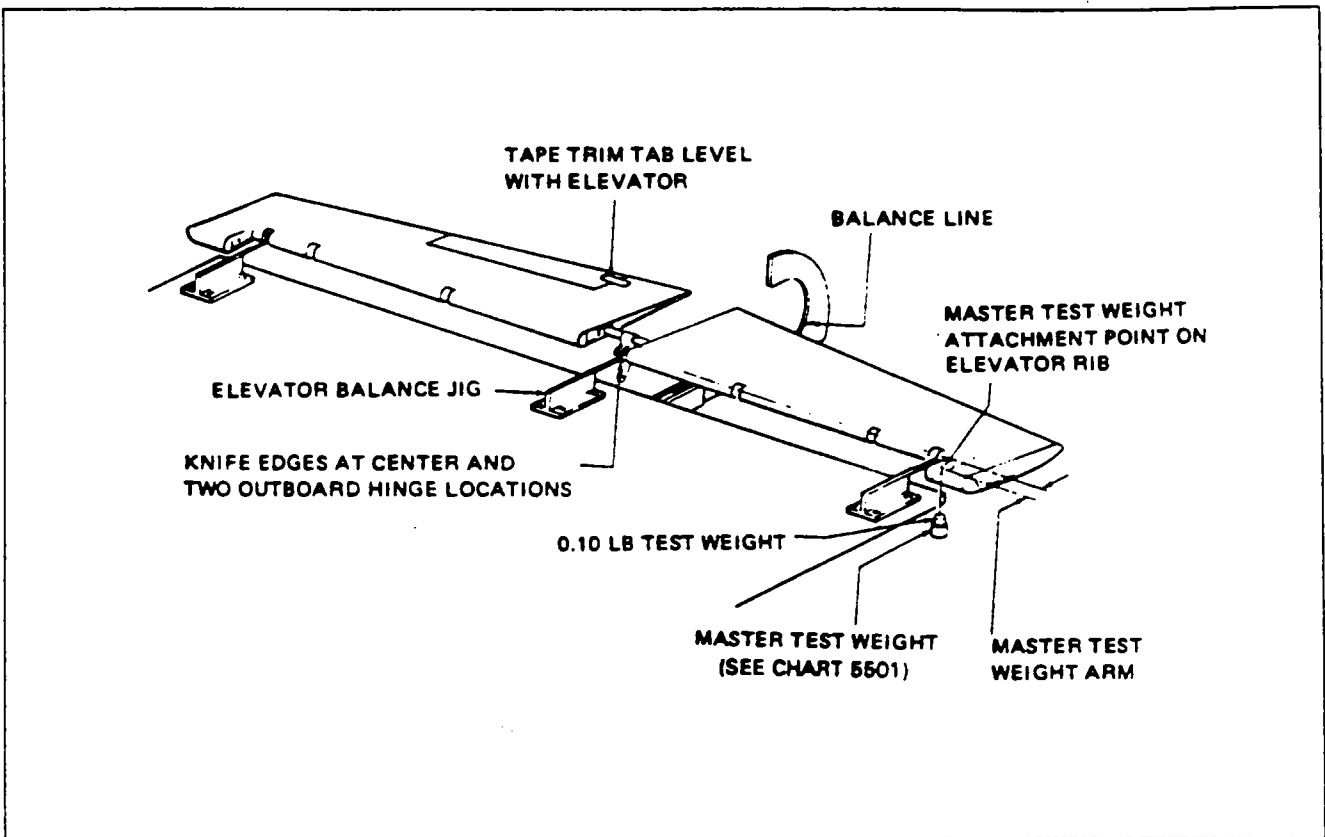

Figure 55-2. Elevator Balancing
ELEVATOR BALANCING PROCEDURE. (Refer to Figure 55-2.)
4. Hang the fabricated master test weight in the tool hole of the elevator counterbalance rib assembly part number 43745. Check the master test weight arm location as shown on Figure 55-2 and specified in Chart 5501.